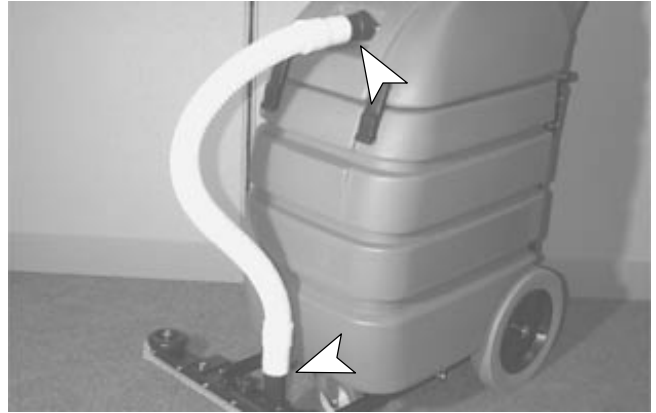

FIG. 6
11. Connect 838 mm (33 in) vacuum hose to squeegee assembly and on neck of machine lid (*Figure 6*).